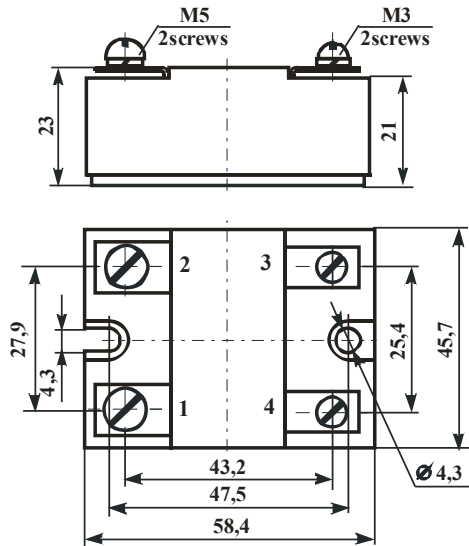

Figure 6.1 – Overall drawing of modules MT14, MT15D with maximum current up to 80 A
**MT14A(B)-PP1** – a module based on MOSFET-transistor shunted with a reverse fast-recovery diode in a housing corresponding to Fig. 6.1.
**MT15DA(B)-PP1** – a module based on IGBT-transistor shunted with a reverse fast-recovery diode in a housing corresponding to Fig.6.1.
**MT14PTA(B)-PP1** – a module based on MOSFET-transistor shunted with a reverse fast-recovery diode in a housing corresp. to Fig.6.1 with inbuilt protection circuits.